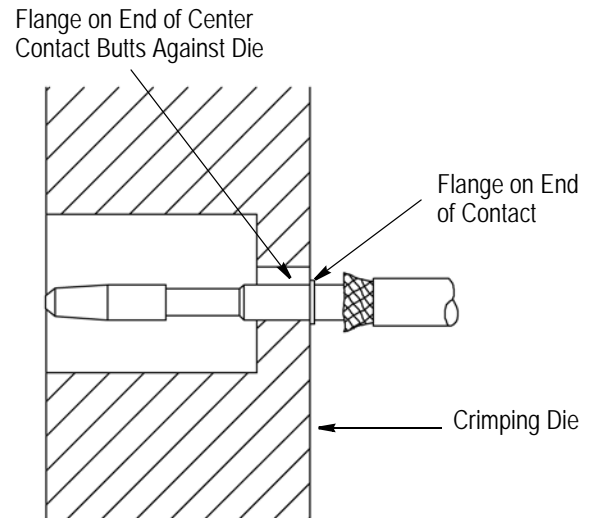

Figure 3
**NOTE**  Make sure that the flange on the end of the center contact butts against the crimping die. See Figure 3.